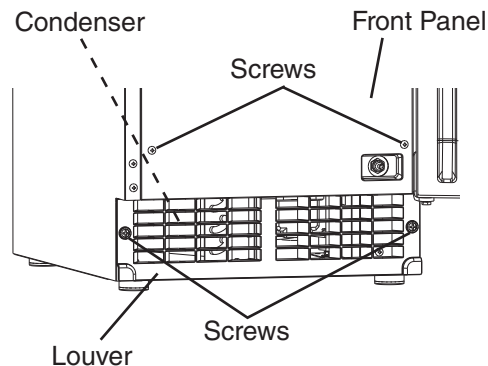

Fig. 34
- 2) Remove the screws securing the front panel, then remove it. See Fig. 34.